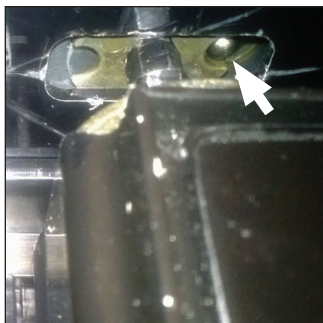

Fig 3.4 Depress the spring button to release all torsion.
3. While still holding the hinge pin in place with the Hillphoenix door tool, locate and depress the spring button with a small hex key (Fig. 3.4).